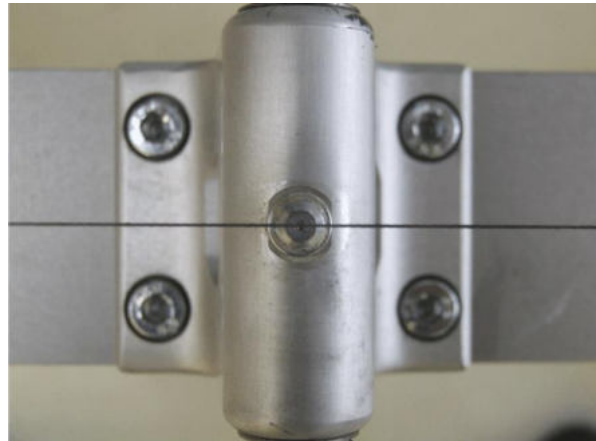

Fig. 3 - Reference point at grease nipple
- 3 Adjust distance of stand carefully so that measuring cord is strung slightly above the central grease nipple. Verify center position of grease nipple (Fig. 3).